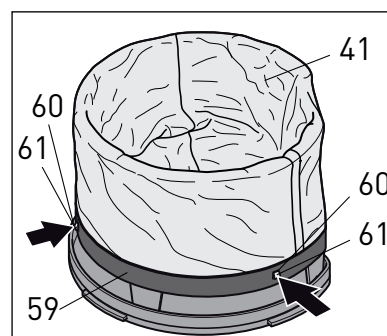
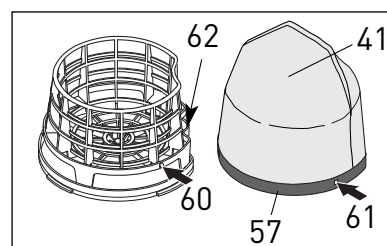
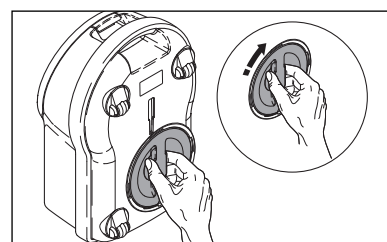

Figure 31
Figure 32
Figure 33
After 10 to 20 bags have been used, change the micro filter (41). To remove the micro filter, switch off the power and unplug the vacuum. Press the release button (58) located on the filter holder (27) as shown in figure 30. While holding the button in, rotate the holder counter-clockwise and pull it out. Remove the filter (41) from the filter holder (27) by pulling the rubber strip (#59, figure 31) away from the notches (60) that hold it onto the base of the filter holder then pulling the filter off. Fit the new filter down over the holder, lining up the notches (60) on the holder with the holes (61) in the red rubber strip. The two tabs located on the indented portion of the red filter rim hook onto the holder rim (see position #62, figure 32). Tuck the peak of the filter down as shown in figure 31. Insert the assembly back into the machine and turn the holder cover clockwise (figure 33). It is not necessary to press the release button to close the filter holder.